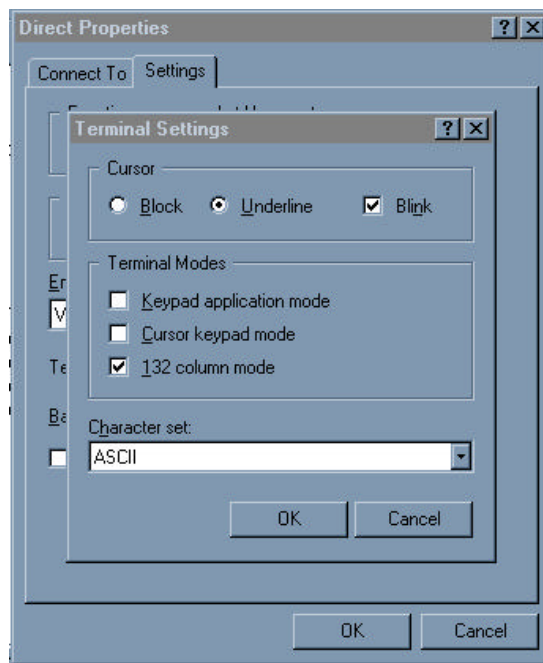

Figure 4-7. Terminal Settings
6. Click on “Terminal Setup...”. Match the settings to those in Figure 4-7. Click OK.